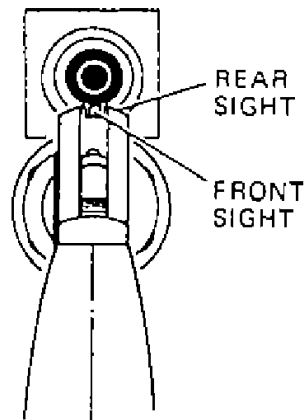

FIGURE 6-AIMING
2. Take aim by aligning target with front and rear sights (See Figure 6).